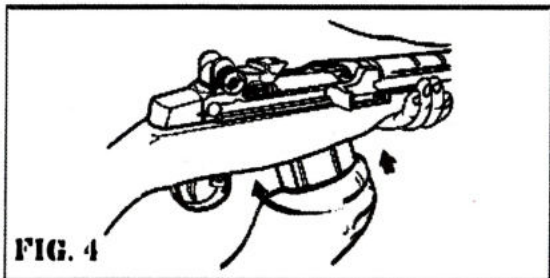

FIG. 4
2. Insert the magazine into the magazine well with the rear of the magazine slightly lower than the front. When the front of the magazine is fully inserted, firmly rock the magazine up and to the rear until it locks [see figure 4]. You may have to push hard to accomplish this. When the magazine is properly in place it cannot be removed without pressing the magazine release.